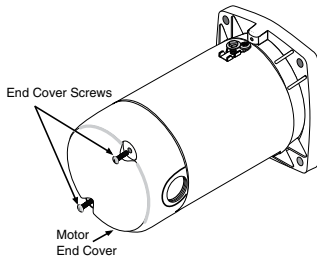

Figure 6: Removing Motor End Cover
7. Connect current carrying conductors to terminals L₁ and L₂ under motor canopy. When replacing motor, check wiring diagram on motor nameplate against Figure 6. If the motor wiring diagram does not match either diagram in Figure 6, follow the diagram on the motor.
IMPORTANT: 115/230 Volt single phase models are shipped from factory with motor wired for 230 volts. If power supply is 115 volts, remove motor canopy and reconnect motor as shown in Figure 6. Do not try to run motor as received on 115 volt current.